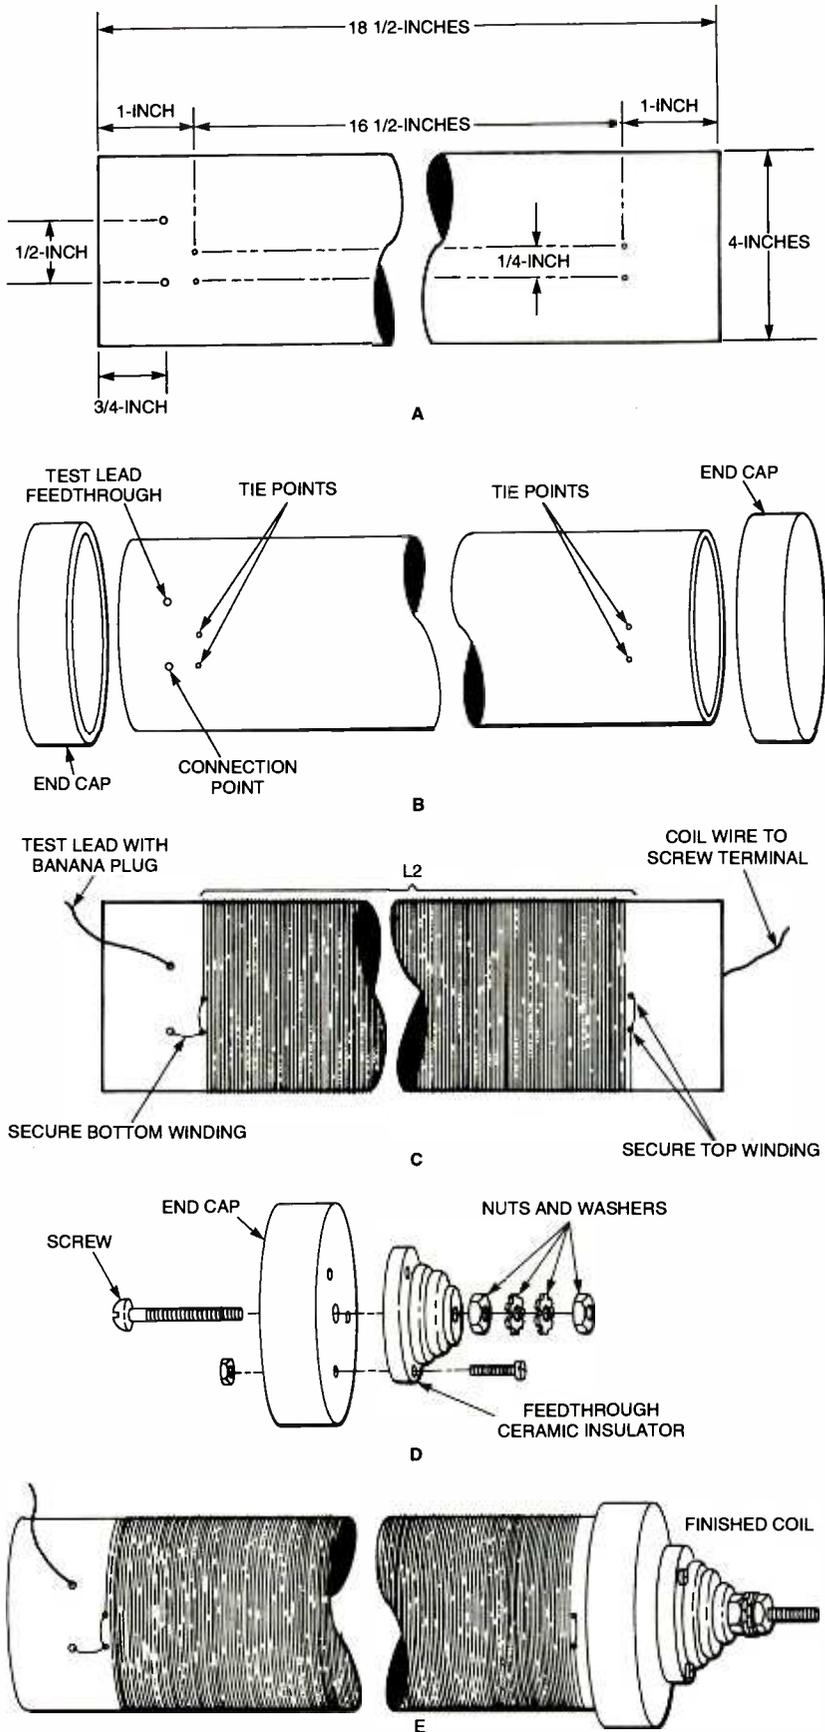

Fig. 6. The tower (or secondary) coil was wound on an 18½-inch length of PVC pipe. Shown here are fabrication details of the tower-coil assembly.
**Tower-Coil Fabrication.** The tower (or secondary) coil, L2, was wound on a piece of PVC pipe. Figure 6 gives details of fabricating the tower-coil assembly. Begin by cutting the a section of 4-inch diameter PVC pipe to a length of 18 1/2 inches (as shown in Fig. 6A). Then, temporarily place end caps on each end of the coil form (as shown in Fig. 6B) to make sure they fit snugly. Once the fit is confirmed, remove the end caps and then (again referring to Fig. 6B) drill a hole in the coil form of sufficient size to accommodate a 6-32 screw, about 1/4 inch up from the bottom of the form. That hole is to serve as a tie point for the ground end of L2.